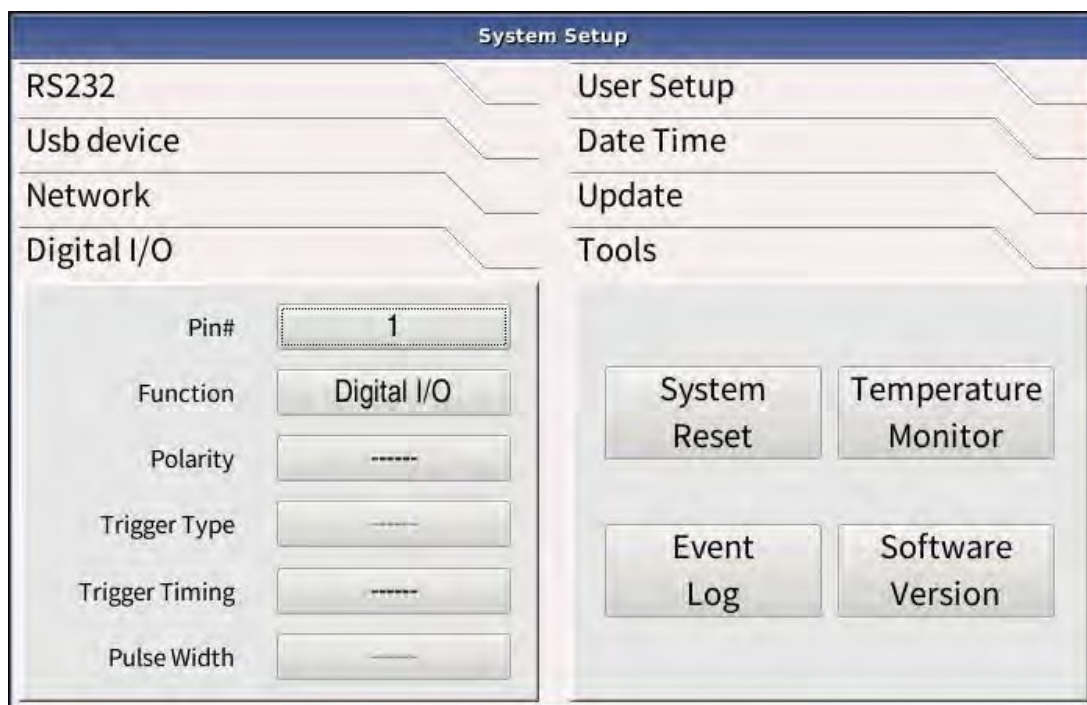

Figure 4-29 System Setup Page 4
**Operation:** (see Figure 4-29)